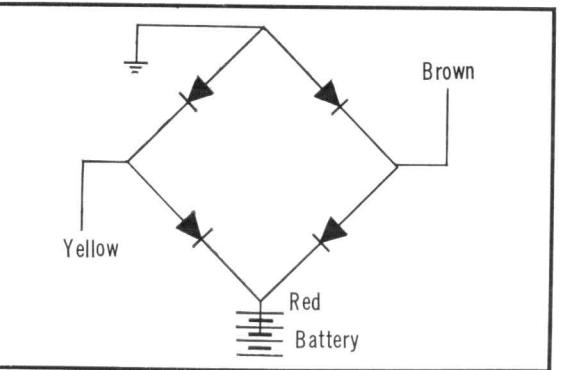

Figure 5-42. Wiring method for C50M, C65M
- For C50M, C65M, connect the ⊕ side of the tester "X" terminals to the brown and yellow leads and the ⊖ side to the red lead of the rectifier for the normal direction, and for the reverse direction, connect the ⊕ side to the red lead and ⊖ side to the brown and yellow leads. The selenium rectifier is in good condition if the measured resistance values are the same as above. (Fig. 5-42)
- (4) Checking the condition of the selenium rectifier as described above, the low resistance in the normal direction and a high resistance in the reverse direction indicates a good condition of the selenium rectifier.